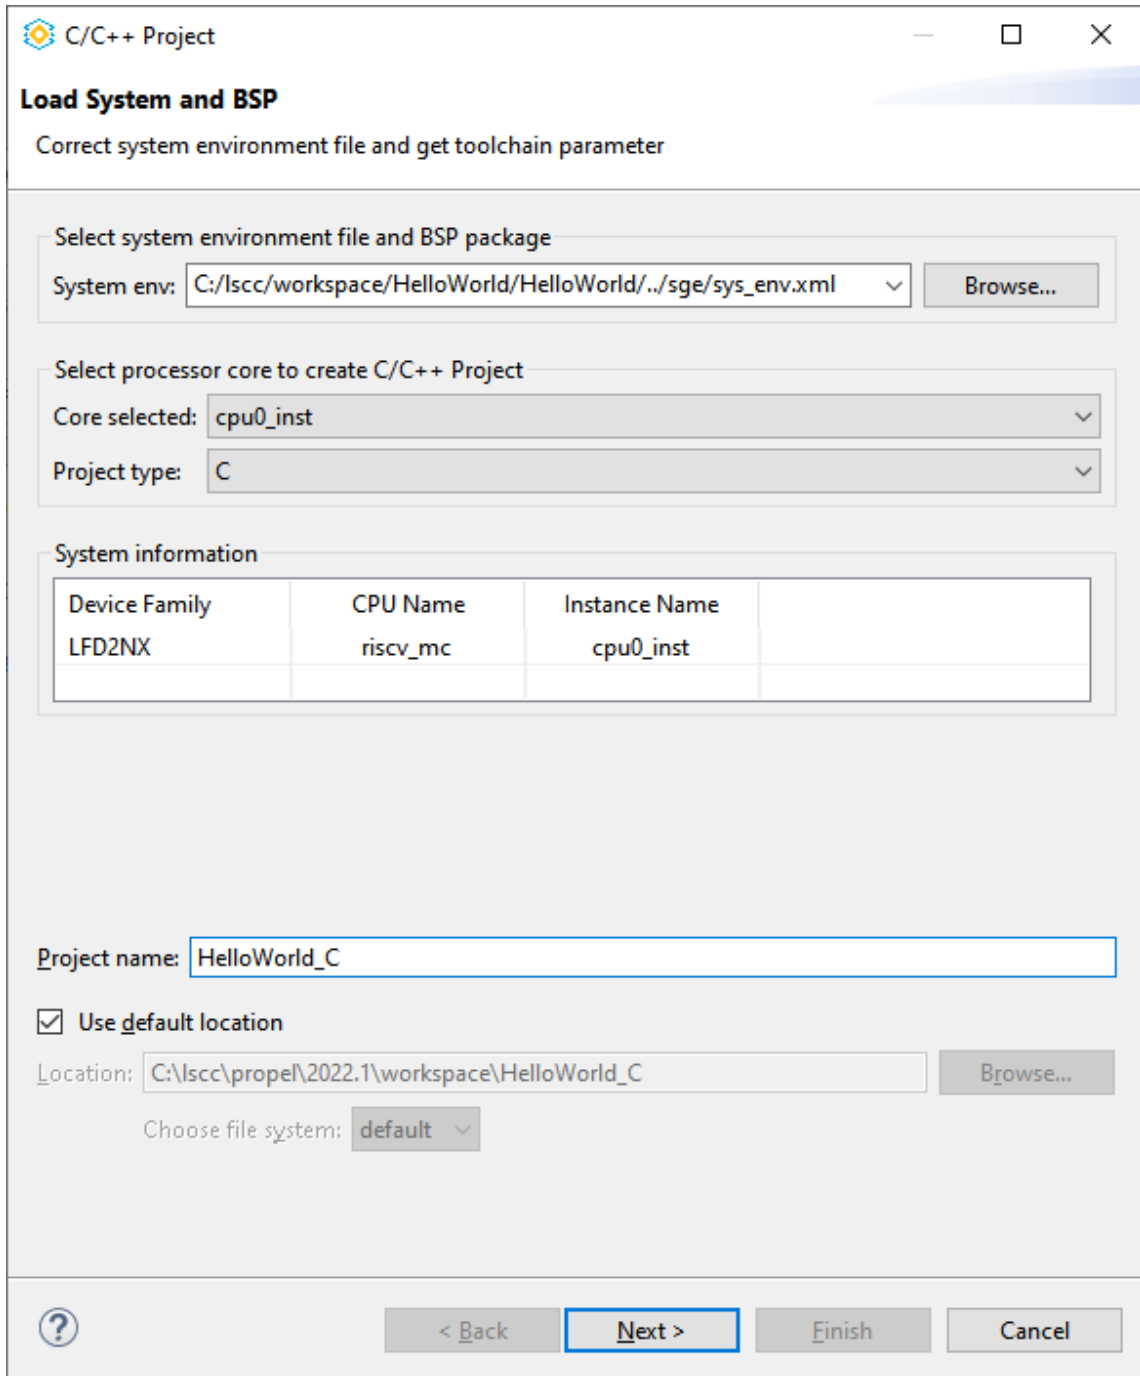

Figure 2.82. Propel SDK GUI and C/C++ Project Wizard
- Click **Launch**. Propel SDK GUI opens and the C Project wizard (Figure 2.82) pops up for loading the system and the board support package (BSP) to create a C/C++ project. Enter a project name in the **Project Name** field, such as HelloWorld_C. Click **Next**.